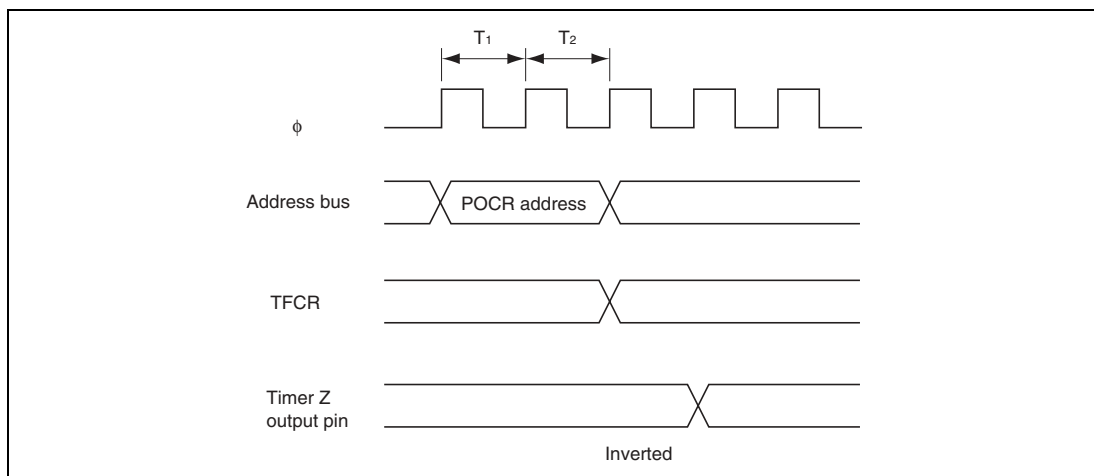

Figure 13.47 Example of Output Inverse Timing of Timer Z by Writing to POOCR
4. Output Inverse Timing by POOCR: The output level can be inverted by inverting the POLD, POLC, and POLB bits in POOCR in PWM mode. Figure 13.47 shows the timing.